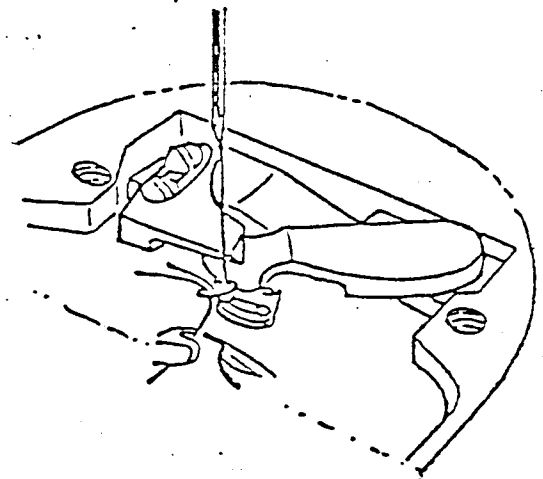

Fig. 9
5. As the needle thread is cast off the rotating hook, it catches on the hook portion of the thread puller. (Fig. 9)